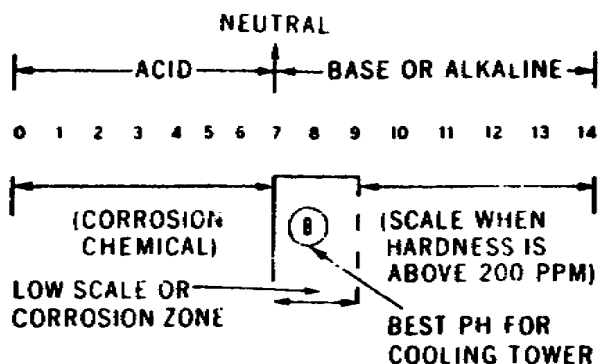

Figure 69. pH scale.
4. Let us compare pH to temperature. A thermometer measures the temperature of a solution, while pH measures the intensity of acid or base in a solution. As you know, pH means potential hydrogen. When a hydrogen atom has lost its electron (H⁺), it becomes a positive hydrogen ion. When a great many of these hydrogen atoms make this change, the solution will become highly acid and attack metals. When the hydrogen atom gains electrons, the solution will be base and have a pH value from 7.1 to 14. A base solution contains more hydroxyl ions (OH⁻). Scale will form when a base solution is exposed to a temperature rise, providing the hardness is 200 parts per million or higher. Notice the recommended pH for cooling towers in figure 69.